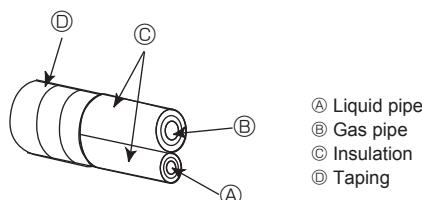
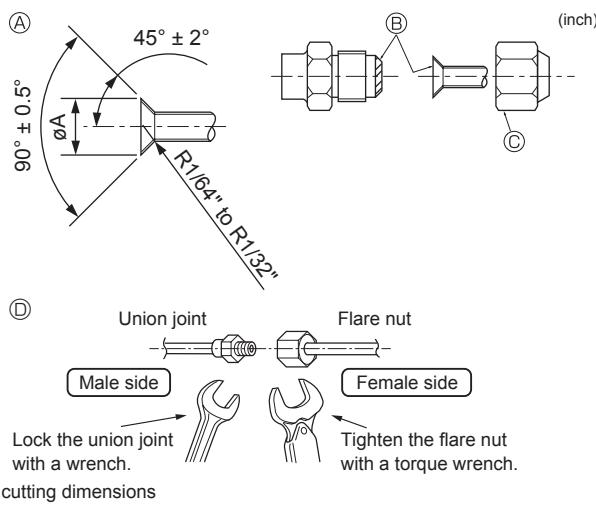

Fig. 4-5
Fig. 4-6
### 4.3. Connecting pipes (Fig. 4-5) (Fig. 4-6)
- [Fig. 4-6]
- Apply thin layer of refrigerant oil to pipe and joint seating surface before tightening flare nut. ④
- Apply refrigerating machine oil over the entire flare seat surface. ⑤
- Use the flare nuts as follows. ⑥
- Use 2 wrenches to tighten piping connections. ⑦